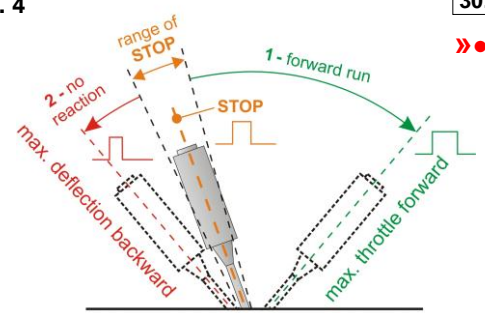

Fig. 5
- b) Aircraft bidirectional** (fig. 5, 6): This very special mode for aircrafts enabled, after landing, reverse motor(s) rotation direction and brake on very short runway (or run backward). Transmitter without lock of STOP position and/or with flying modes switch.
- f) Boat bidirectional** (fig. 5, 6): Bidirectional driving of boat, transition from one direction of rotation to opposite is instantaneous. Transmitter with lock of STOP position.